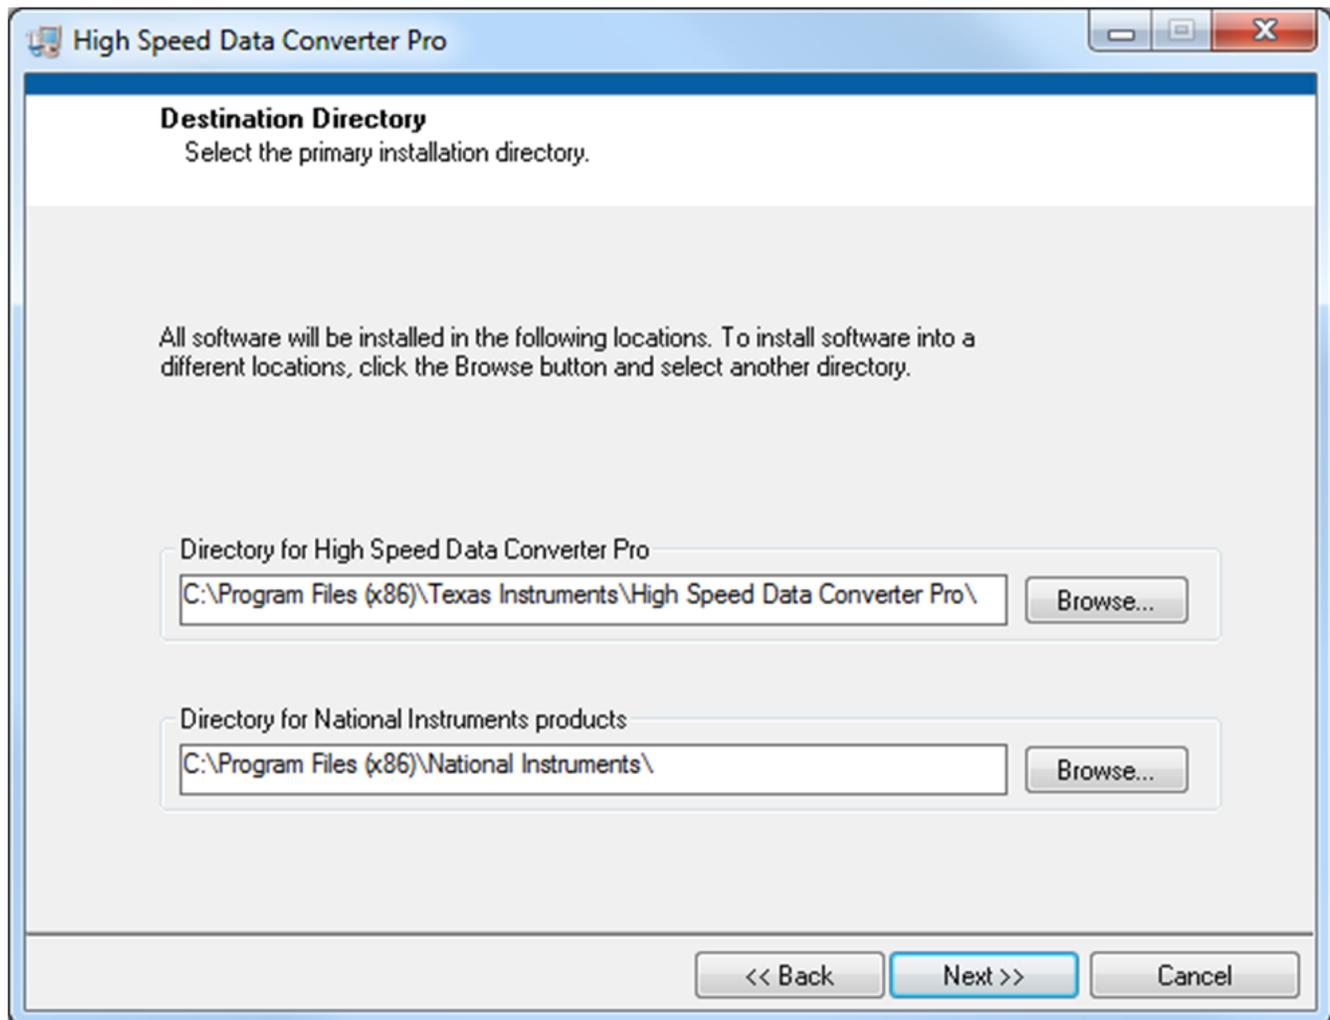

Figure 43. HSDCPro Install (Install Directory)
- Leave the destination directories as the default location, for the TSW1400GUI installation and press the NEXT button as shown in Figure 43.